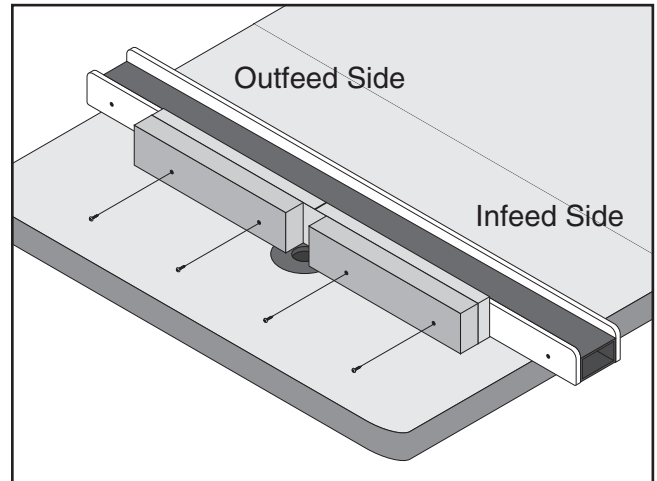

Figure 27. Attaching fence boards.
17. Clamp, predrill with a countersinking bit, and attach the fence pieces with at least two wood screws per side, as shown in **Figure 27**. (Only use wood screws that are long enough to thread into the support board, but not so long that they enter the plastic fence face.)